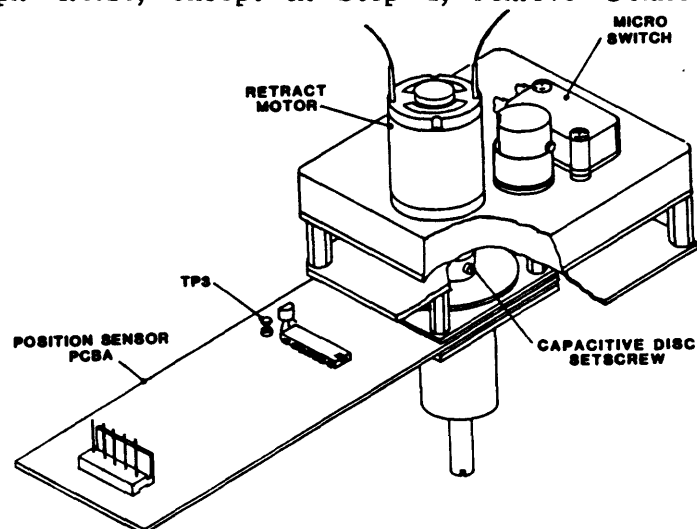

Figure 4-18 Supply-Arm Retract and Pivot Sensor Assembly
4.3.21 RETRACT AND PIVOT SENSOR (SUPPLY) (Figure 4-18)